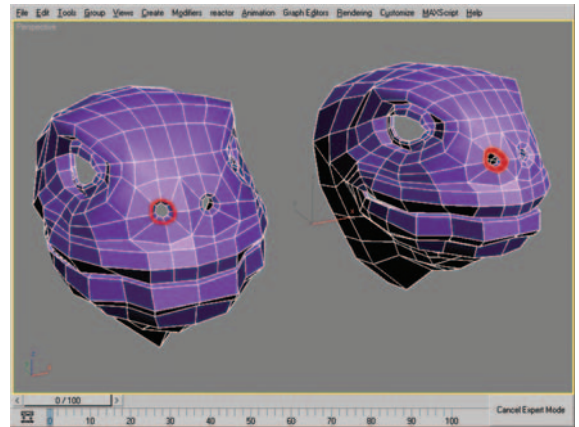

Figure 9.39 Edge selection before and after chamfering.
40. Select the edges shown in Figure 9.39 (left) and use Chamfer to create an additional edge loop as seen in Figure 9.39 (right).